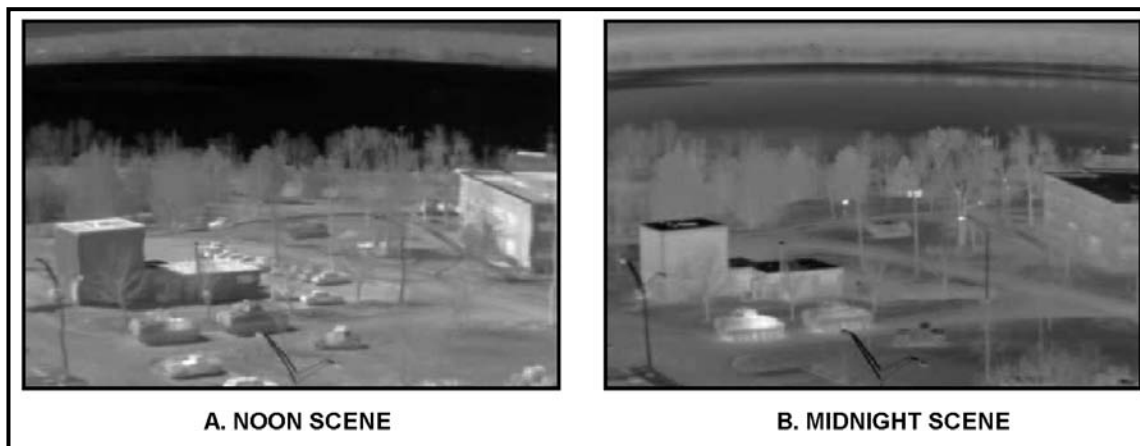

Figure C-11. Delta-T changes from day to night.
(1) The gunner knows that vehicles, buildings, and asphalt roads get hot in the sun. Grass and trees become warm, but not so hot they cannot be touched. Large bodies of water do not warm up noticeably in one day. Objects that heat up the most during the day tend to become the coldest at night. Objects that heat up very little during the day tend to cool off very little at night. Figure C-11 (page C-8) shows two images on the same terrain (one at noon and the other at midnight).
(a) In the noon example (A, Figure C-11), the buildings, roads, and vehicles are the hottest objects in the scene. The grassy areas and trees are shaded to indicate they are warm, and the river is black, which indicates it is the coolest object in the target scene.
(b) In the midnight example (B, Figure C-11), the Delta-Ts changed. Now, the river is the warmest, the grass and trees are next, with the roads and vehicles being the coolest (with the exception of the engine compartment and exhaust on the vehicles). This example shows how the relationship of Delta-Ts changes among objects in a target scene over the course of a day.